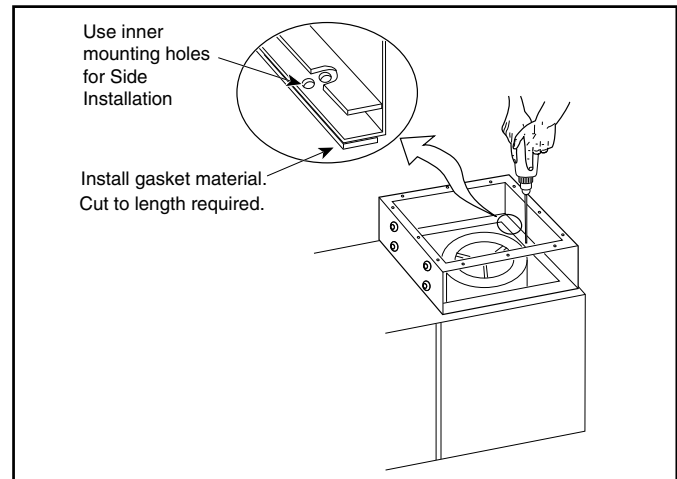

Figure 19 Side Installation Details
- Install the self-adhesive gasket material on the side of the air cleaner cabinet flange that will mate with the indoor unit. This flange has a double set of holes. See Figure 19.
- Securely fasten the unit using the self-tapping sheet metal screws provided. See Figure 19.